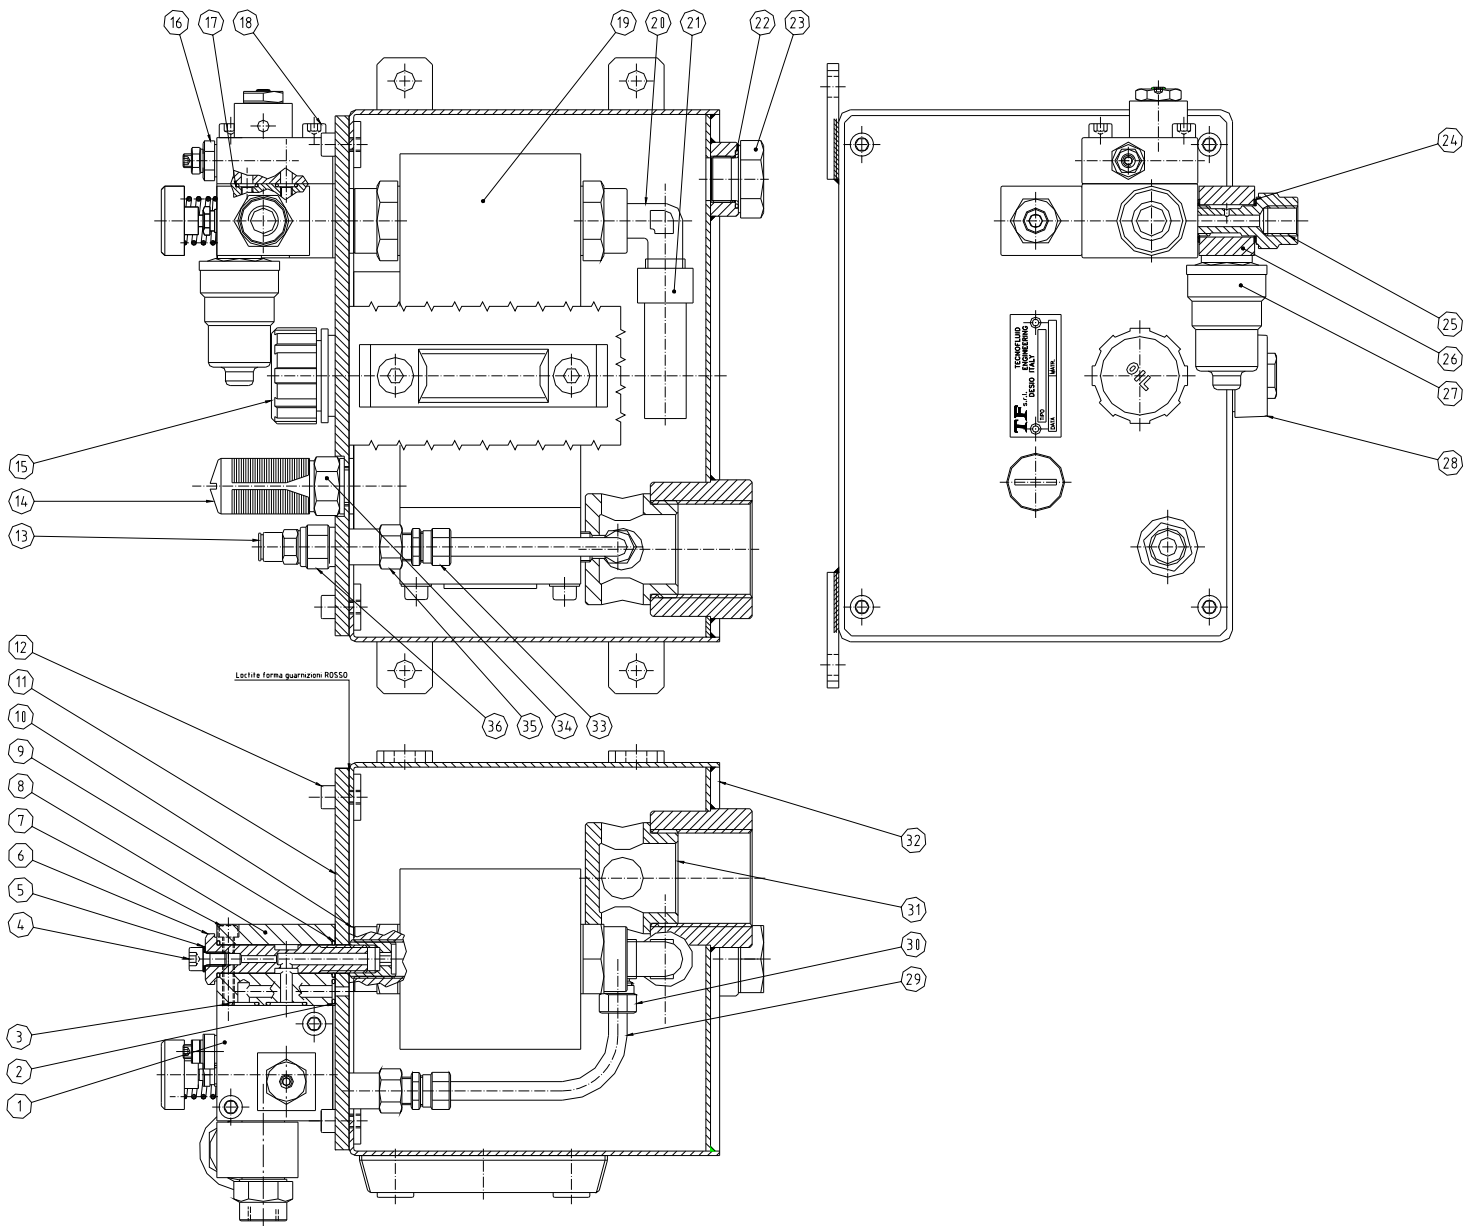

fig.5
Figure 5 shows a section of power unit 5-1520-\*-0, in which all the power unit components are numbered. The spare parts list also gives the quantities for each single item necessary for completing a single device. See next page for the list in question.
**Spare parts list for power unit code 5-1520-\*-0 (see section in figure 5)**